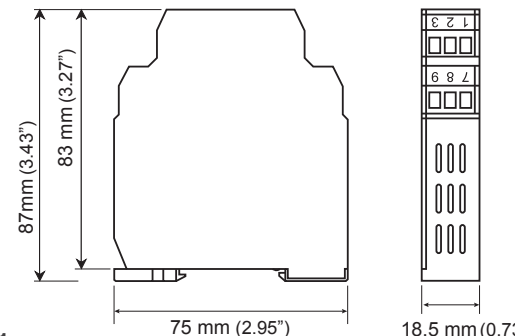

Figure 1
- ① Accuracy is not guaranteed between 0 and 400°C (0 and 752°F) for type B, R and S.
- ② Rang set by an internal DIP switch, see Table 2.
- Dimension:** shown in Figure 1.